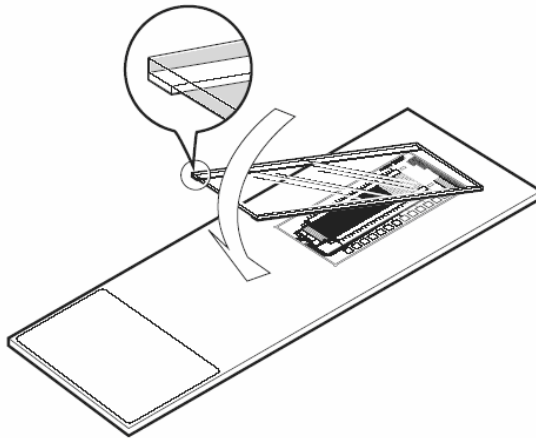

Figure 5. CombiMatrix microarray with LifterSlip™ coverslip.
3. Lay the LifterSlip™ at an angle onto the microarray so that it is centered over the semiconductor area (see Figure 5). First touch the Imaging Solution with one side of the LifterSlip™, then slowly lower the slip down, taking care not to introduce air bubbles. If bubbles still form, lift one side of the LifterSlip™ with forceps (or a razor blade) to let the bubbles out, and lower it down again.